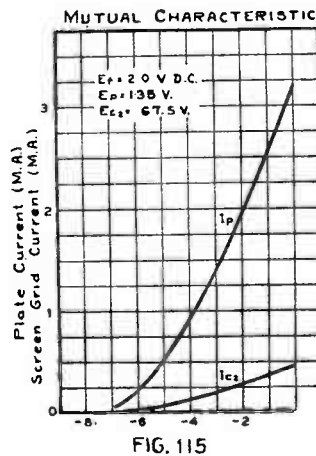

FIG. 115
- Screen-Grid Voltage—Plate Current ..... Fig. 115
- Screen-Grid Voltage—Screen-Grid Current... Fig. 115